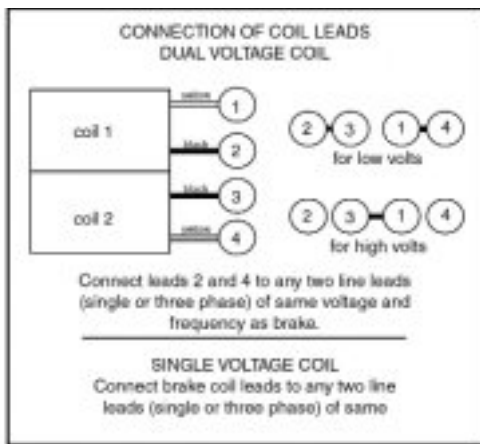

Figure 3. Wiring Diagram
2. Remove the three cover screws (3) and cover (4) and position brake over hub (2) on shaft. Bolt brake to motor flange with two 1/4" flat head screws. (NOTE: Be sure anti-rattle spring (5) does not rest in hub tooth space containing a set screw.)
3. Connect coil wire leads as indicated in Figure 3. Replace cover, three cover screws and rubber sleeve.